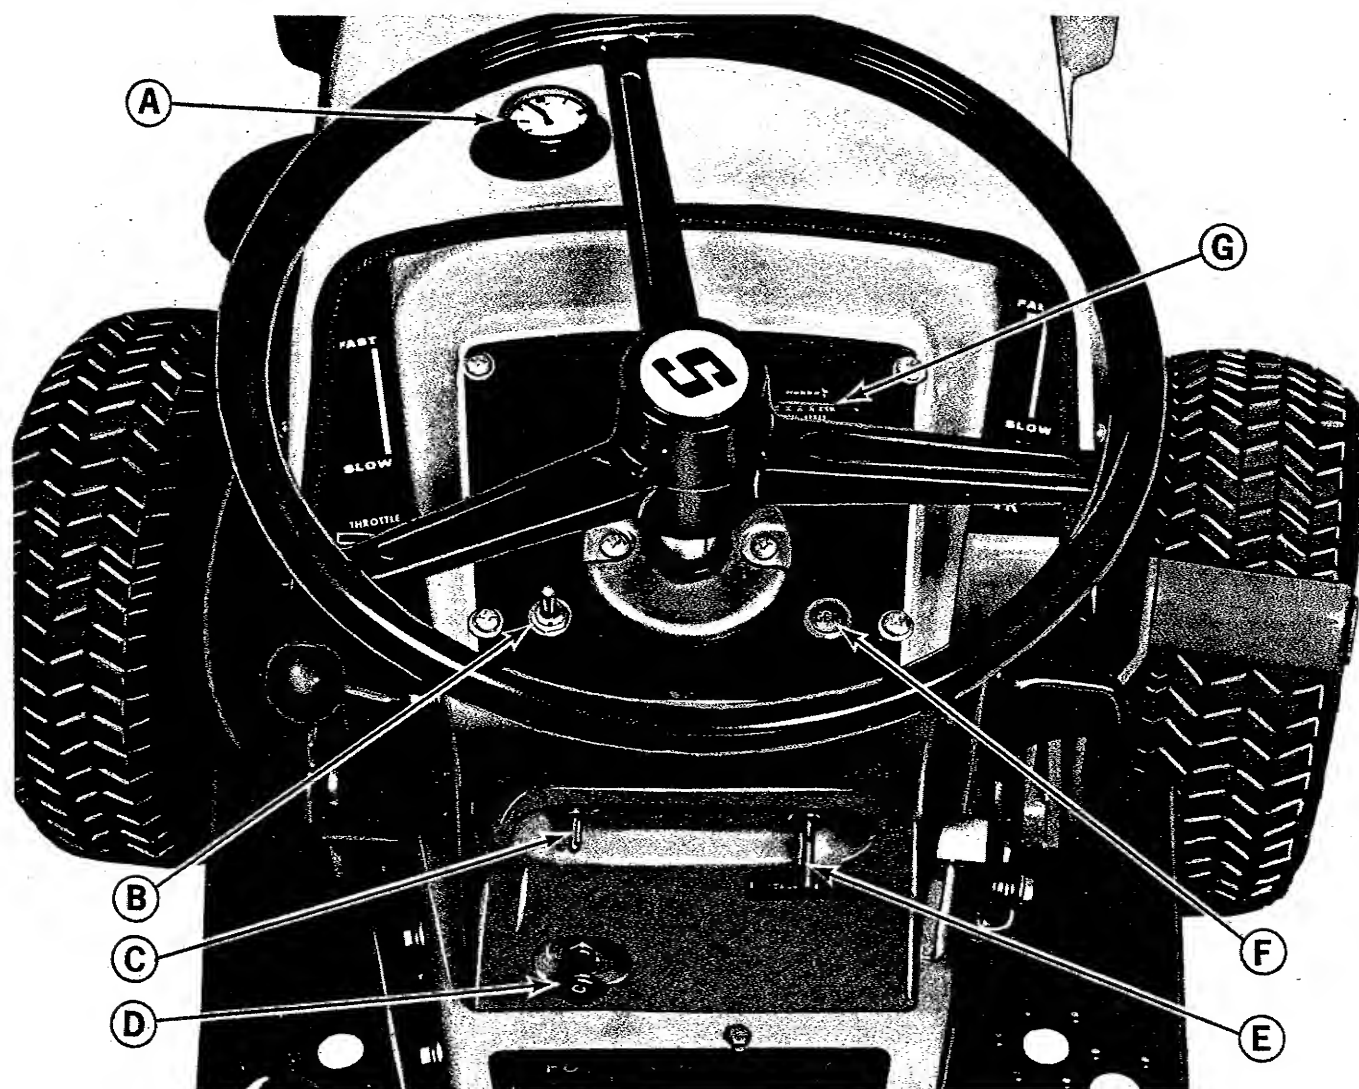

Figure 1. Tractor instrument panel as seen from the operators position on tractor seat.
Picture yourself seated on your Simplicity tractor. Before starting the engine, let's learn how to understand and use the instruments and controls. The paragraphs referring to the instruments and controls are illustrated on figures 1 through 5.
**IGNITION SWITCH:** (Figure 1, item E) To actuate the ignition switch first insert the ignition key as shown. When the key is turned clockwise to the first position, the ignition is ON. In the ON position the lights, hourmeter, etc. will operate. Turn the key clockwise past the ON position to the START position to actuate the starter. **THE HYDROSTATIC TRANSMISSION CONTROL LEVER MUST BE IN THE NEUTRAL POSITION AND THE POWER TAKE OFF CLUTCH CONTROL LEVER MUST BE IN THE DISENGAGED POSITION BEFORE THE STARTER WILL ACTUATE.** Release the key as soon as the engine starts. Return
**CHOKE CONTROL KNOB:** (Figure 1, item D) The choke control knob may be pulled out to increase the amount of fuel entering the engine for starting and cold weather warmup. When starting a cold engine in cold weather pull the choke all the way out. Some choke may be required to start the engine when the air temperature is above 70 degrees F or while the engine is still warm from being recently run. After the engine has started, push the choke in slowly. In cold weather it may be necessary to leave the choke pulled out slightly for three or four minutes while the engine warms up. **NEVER OPERATE THE ENGINE WITH THE CHOKE OUT AFTER IT HAS HAD SUFFICIENT TIME TO WARM UP - ABOUT 5 MINUTES SHOULD BE SUFFICIENT EVEN IN COLD WEATHER.**
**GENERATOR WARNING LIGHT:** (Figure 1, item F)
**HOURLMETER: (OPTIONAL)** - (Figure 1, item G)
**FUEL GAUGE AND FILLER CAP:** (Figure 1, item A)
**LIGHT SWITCH: (OPTIONAL)** (Figure 1, item C)
**POWER LIFT SWITCH: (OPTIONAL)** (Figure 1,